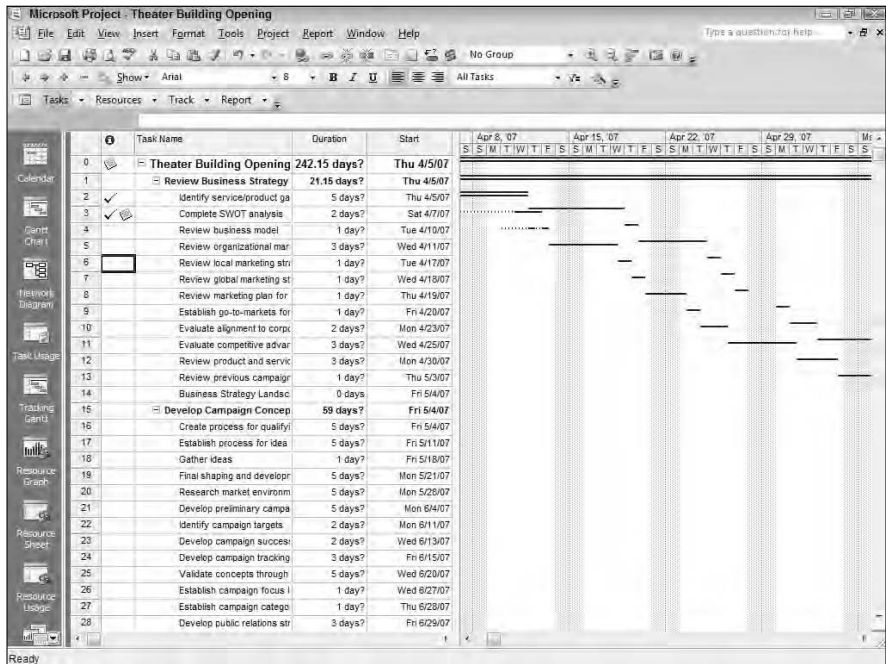

Figure 3-14:
- ◆ **Multiple Baselines Gantt** (Figure 3-14) is useful if you've had occasion to save several baselines over the life of your project. This can occur when serious changes to your project come up — for example, if you have to stop your project midway because of a materials shortage and start it up again months later. By setting a new baseline, you're tracking against an iteration of your plan that makes sense against future actual activity. This view displays, side by side, all baselines you have saved in your project so you can see (or explain) how things changed overtime.